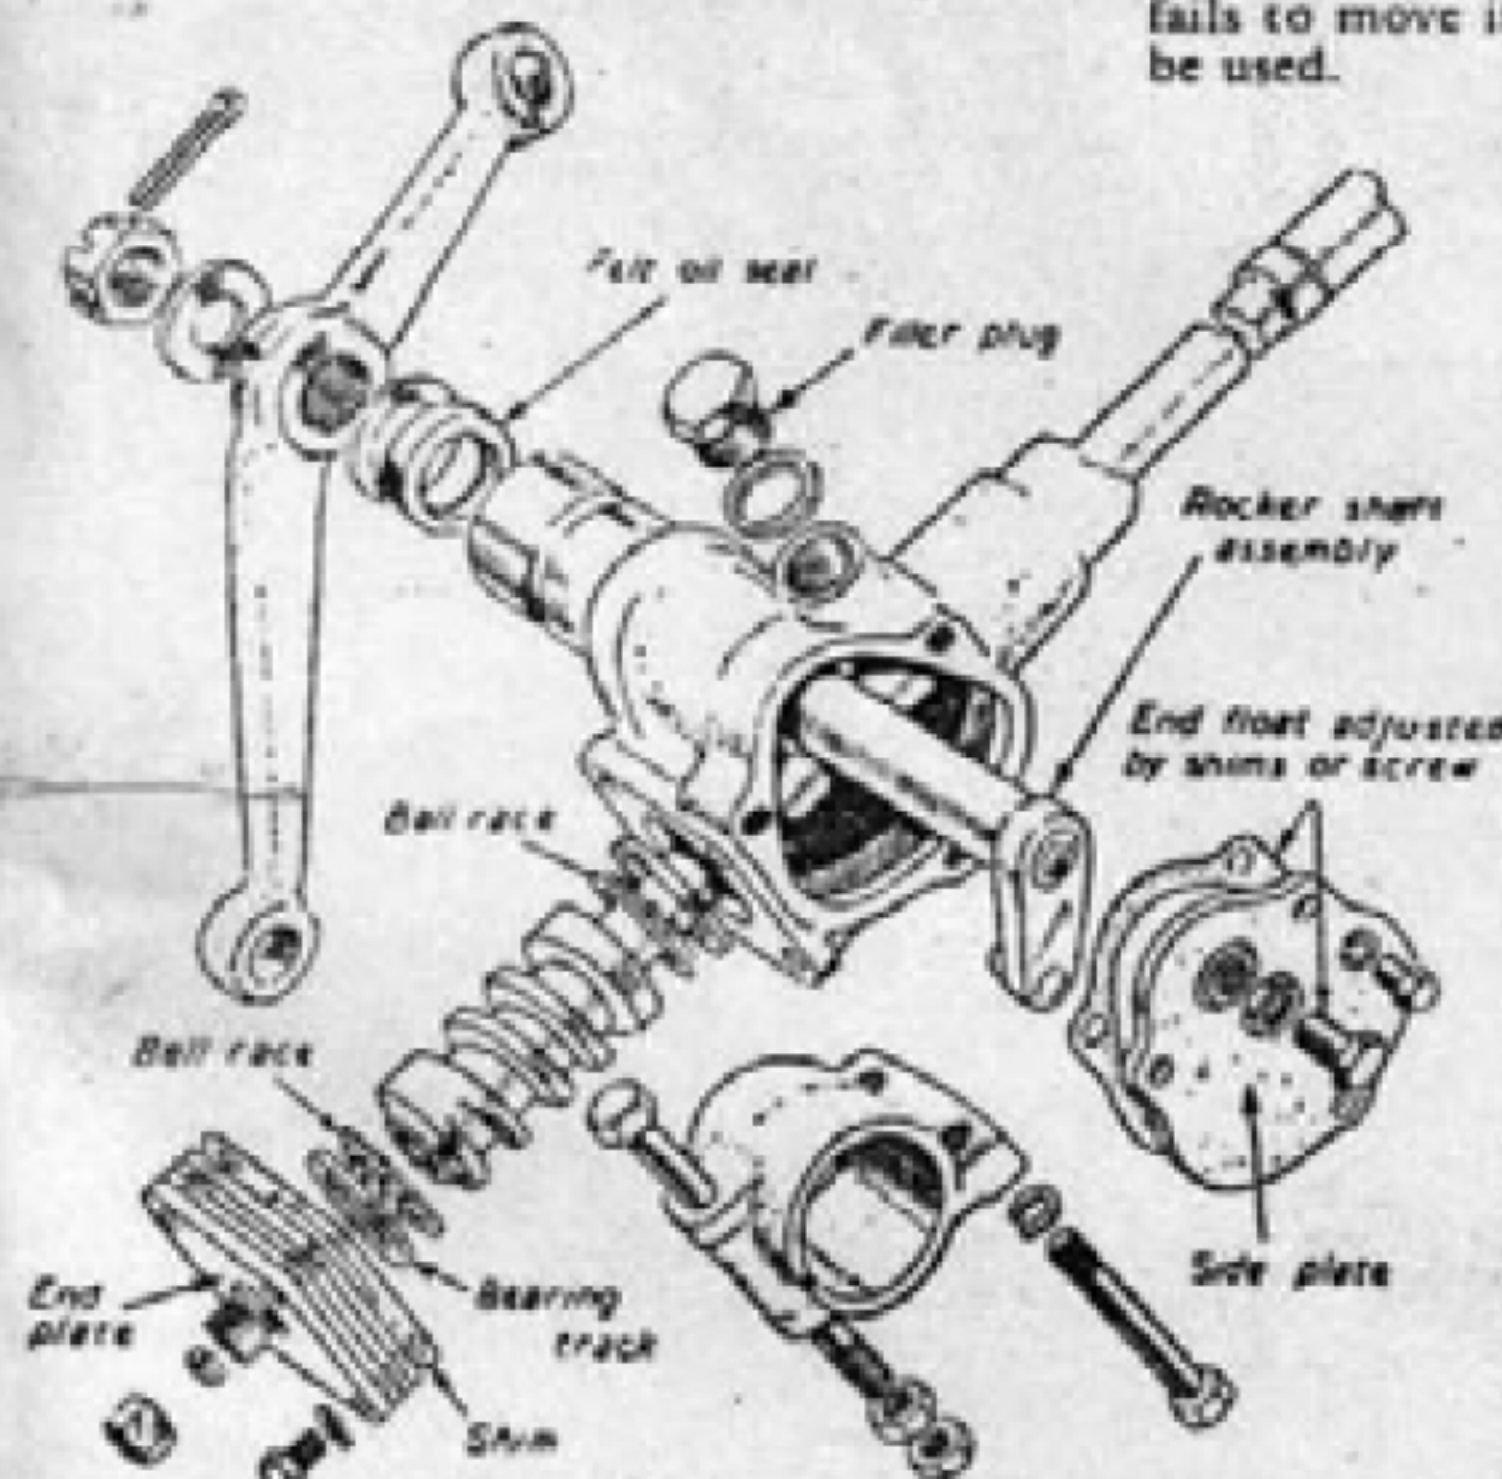

Fig. 1.—Exploded view of a Bishop Cam steering-box.
**T**HE Bishop Cam steering-box (Fig. 1) is fitted to a wide range of popular cars, for example, most Austins, pre-war and early post-war Morris, M.G., etc. It is quite a simple box and, as spares are easily obtainable, it should present little difficulty to the owner-driver who wishes to do his own overhauls.